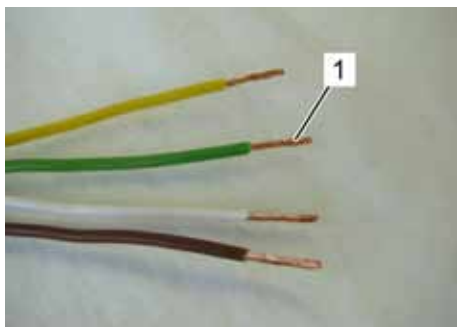

Fig. 28: Stripping insulation
4. Strip the insulation of each conductor (Fig. 28/1) to approximately 1 cm.